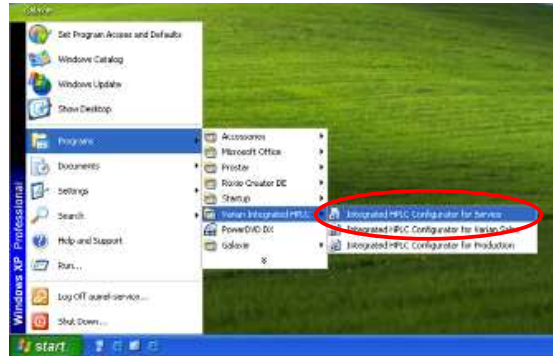

Figure 20: Service Configurator
1. Find the Configurator for Service from the Start Menu/Programs/Varian Integrated HPLC (Figure 20).